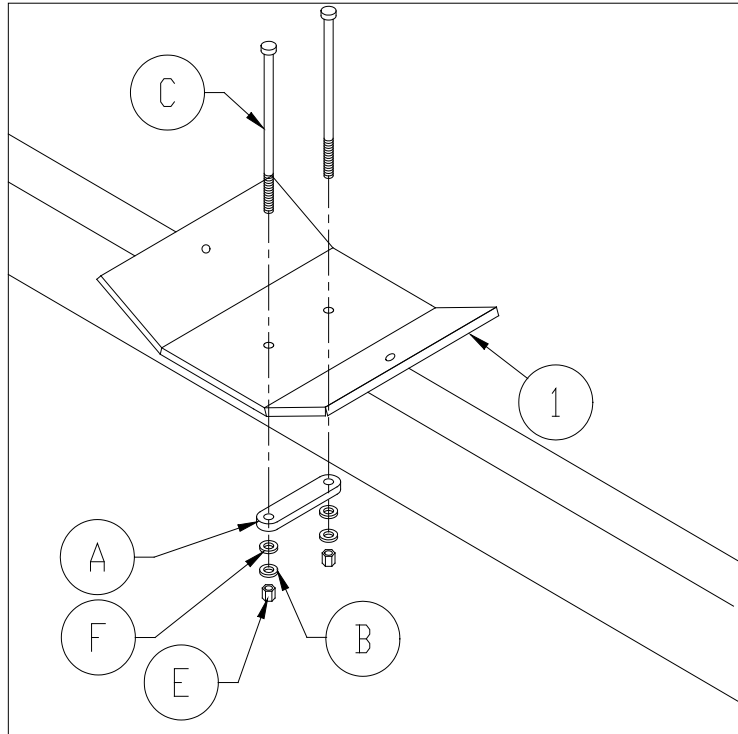

Figure 2-2.
1. Refer to Figure 2-2. Attach each cradle mounting plate onto the load tube by aligning a 2-Hole Plate (A) underneath the tube and fastening with two hex head bolts (C), two flat washers (F), two split-lock washers (B), and two hex nuts (H).